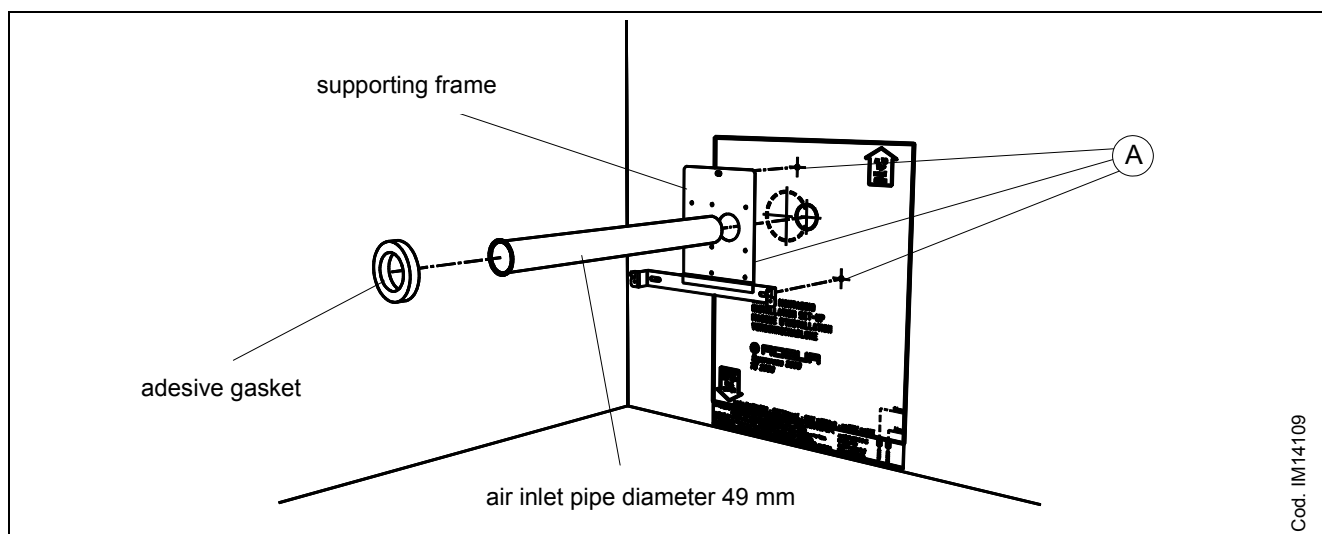
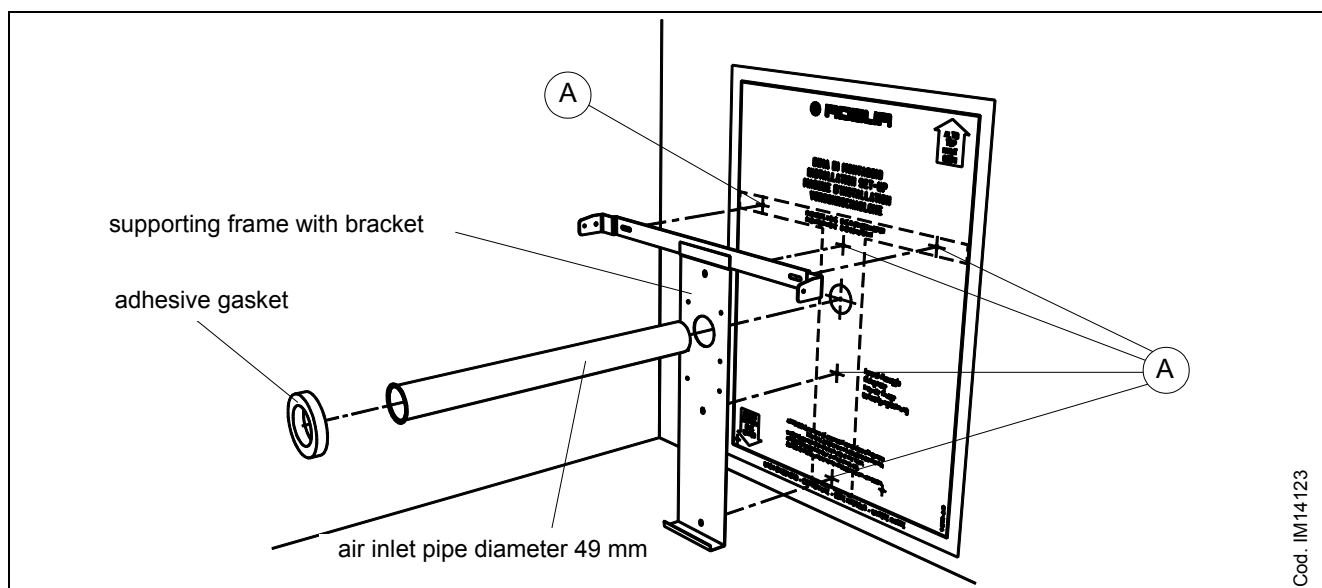
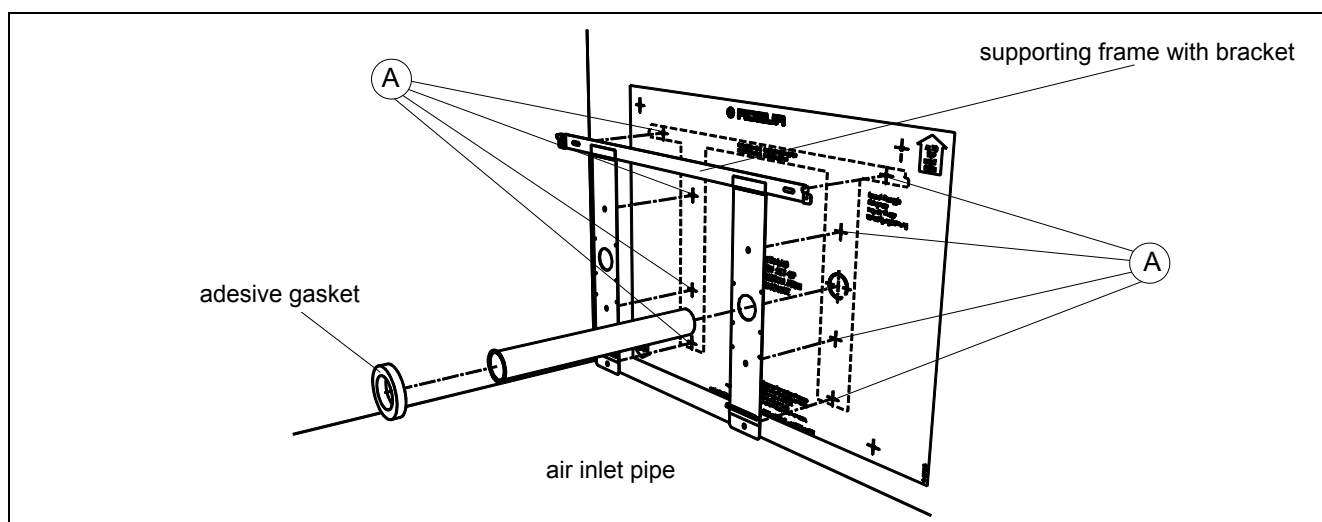

Figure 7 – POSITIONING OF SUPPORTING FRAME AND DRILLING PROCEDURE FOR 3001 AND 3002 MODELS
Figure 8 – POSITIONING OF SUPPORTING FRAME AND DRILLING PROCEDURE FOR 4001, 4002, 5001 AND 5002 MODELS
Figure 9 – POSITIONING OF SUPPORTING FRAME AND DRILLING PROCEDURE FOR 8001, 8002 MODELS
2. Fix the template to the wall where the unit is to be installed making sure it is perpendicular to the floor. Drill a hole (diameter 50 mm) to locate the main pipe as well as "A" holes to fix the support bracket (see Figure 7, Figure 8 and Figure 9). Drill 6 mm holes for the insertion of the support frame.
5. Locate the supporting bracket and the pipe diameter 49 mm, making sure that the pipe edge perfectly enters the matching hole in the supporting frame (see Figure 7, Figure 8 and Figure 9).
6. Fix the supporting bracket with the screws and place the adhesive seal around the air inlet pipe hole (see Figure 7, Figure 8 and Figure 9).